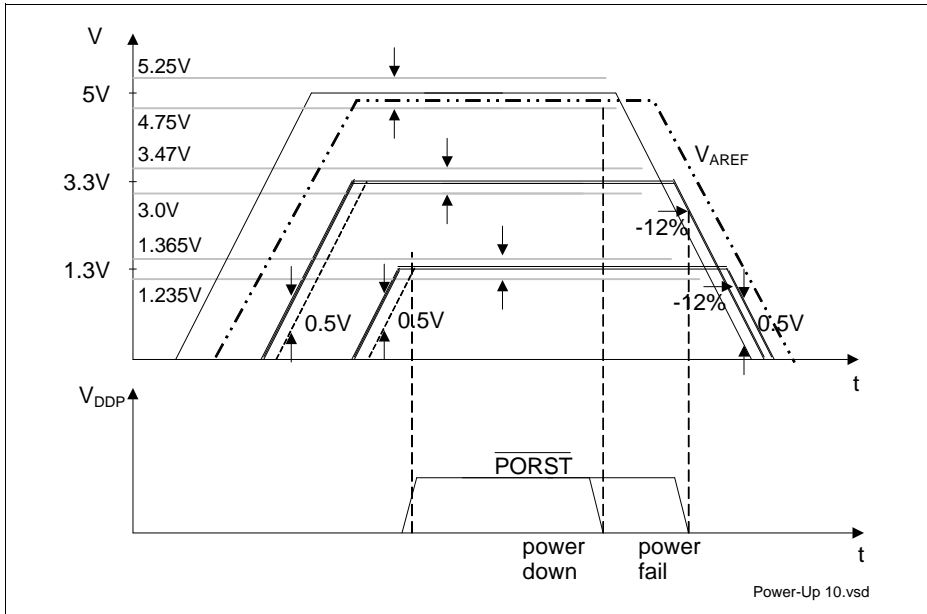

Figure 11 5 V / 3.3 V / 1.3 V Power-Up/Down Sequence
- At any moment in time to avoid increased latch-up risk, each power supply must be higher than any lower_power_supply - 0.5 V, or: $V_{DD5} > V_{DD3.3} - 0.5\text{ V}$; $V_{DD5} > V_{DD1.3} - 0.5\text{ V}$; $V_{DD3.3} > V_{DD1.3} - 0.5\text{ V}$, see Figure 11.